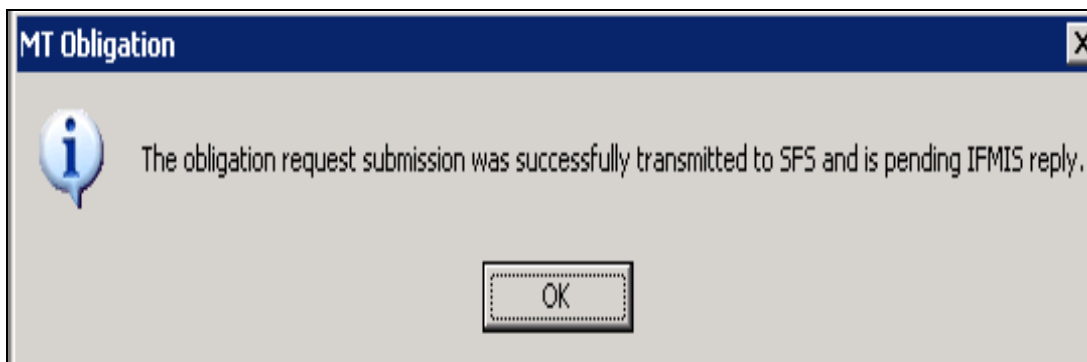

Figure 10-53: Obligation Submitted Message
11. The "Obligation request submission was successfully transmitted to SFS and is pending IFMIS reply" message is displayed (Figure 10-53).